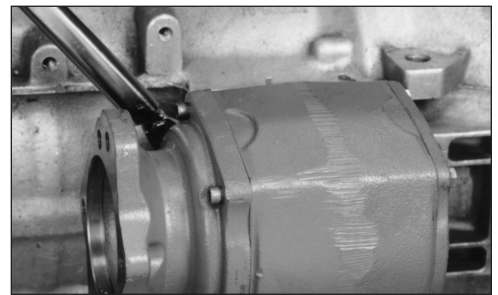

Figure 15
14. Install all locking nuts and torque to 55-60 lb-ft [75-81 N-m] (**Fig 15 & 16**).